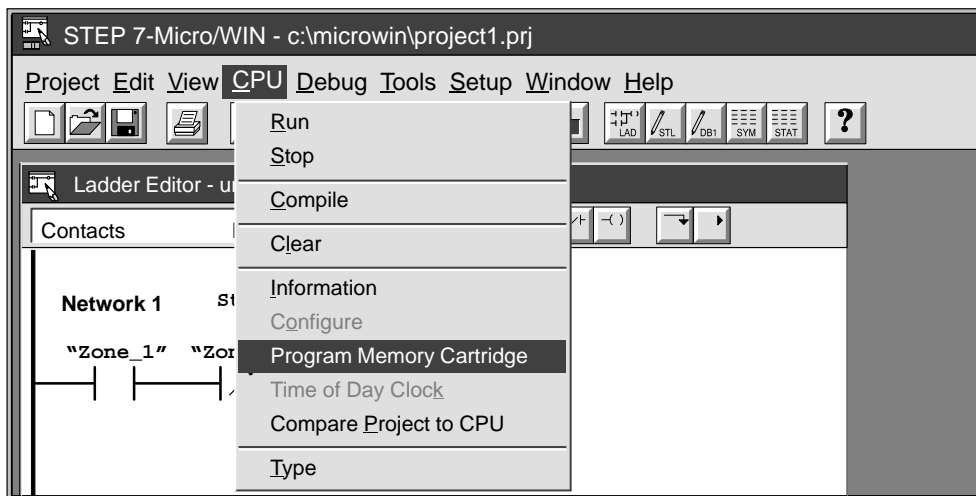

Figure 2-9 Copying the Program to the Memory Cartridge
2. Use the menu command **CPU ► Program Memory Cartridge** to copy the program to the memory cartridge. See Figure 2-9.